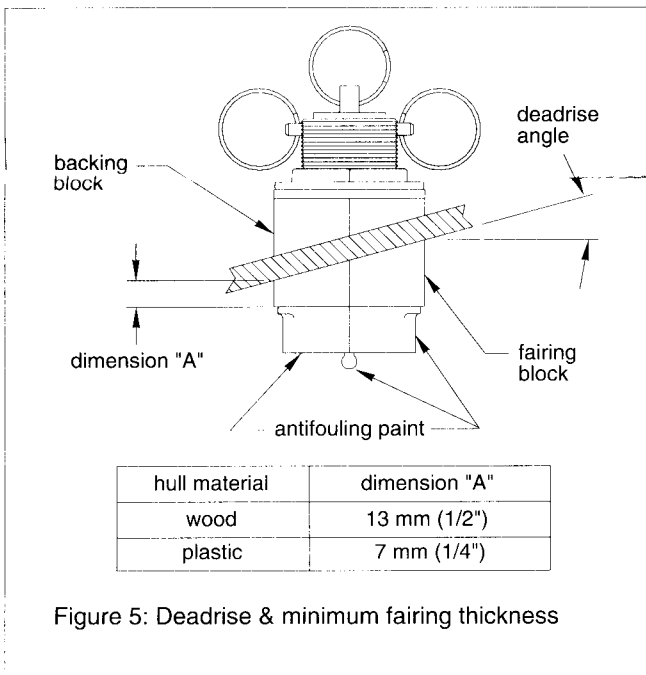
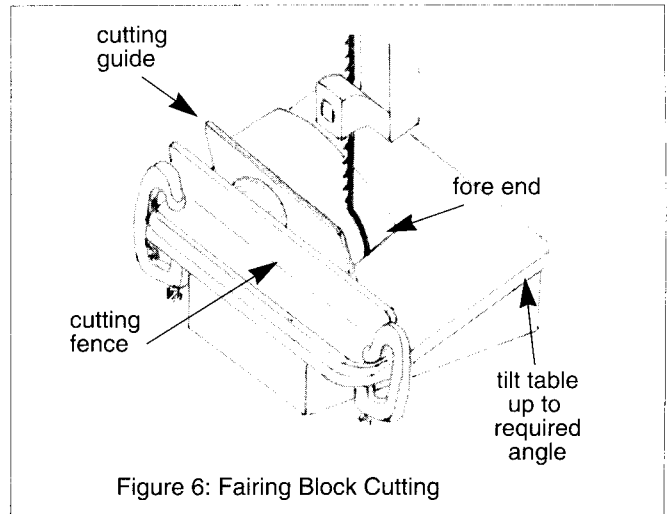

Figure 5: Deadrise & minimum fairing thickness
Figure 6: Fairing Block Cutting
before cutting urethane fairing block, measure the deadrise angle of the hull at the selected location (ref. **Figure 5**) using a level and protractor. Tilt the bandsaw
table to the measured angle and secure a cutting fence to the table as shown in **Figure 6**. Position the fence so that there is at least 6mm (1/4") of material remaining after the cut is made (ref. **Figure 5** dimension "A")
- At larger deadrise angles, some of the cutting guide may remain after making the deadrise angle cut. This remaining guide material should be sanded away. The maximum thickness of the fairing is limited by the deadrise angle of the hull, the hull thickness and transducer stem length. The optimal thickness of the fairing block involves some trade-offs. **Thicker blocks** yield better results because they project the transducer further into the water, reducing chance of aerated water flow across the transducer face. However, the greater the projection, the greater the chance for impact with water borne objects and the higher the forces applied to them. Generally, **AIRMAR** recommends a minimum fairing block thickness of 6mm (1/4") for plastic and 13mm (1/2") for wood (between the bronze housing and hull) after cutting and shaping (ref. **Figure 5**). With an **AIRMAR** urethane fairing, the cut-away (cutting guide) section can be trimmed to form the backing block.